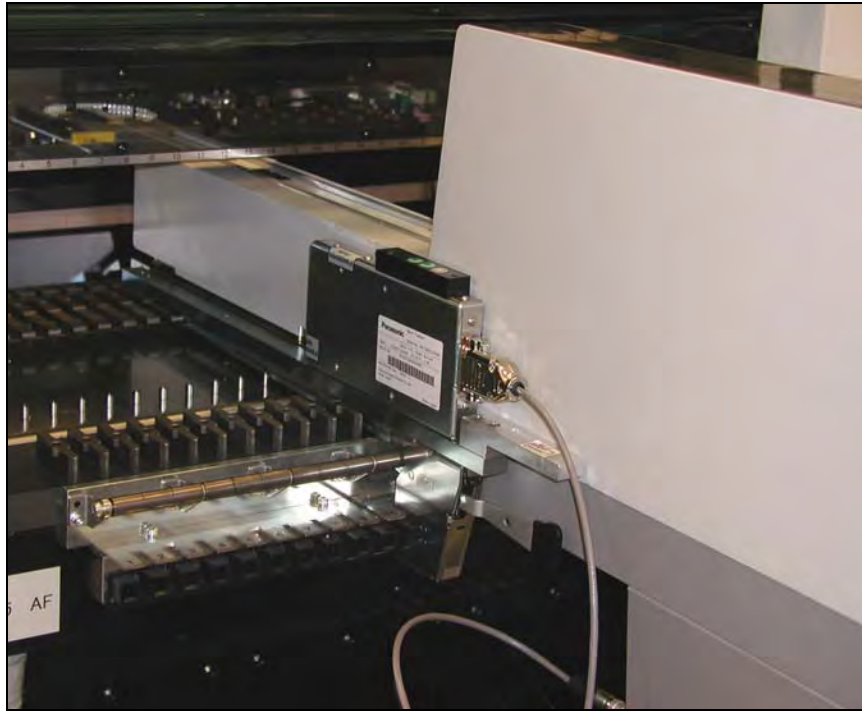

Figure 2-19—RoadRunner is mounted and the Communication Cable is plugged into the Panasonic Host Feeder unit.
3. Screw in the two connector screws. See Figure 2-19.